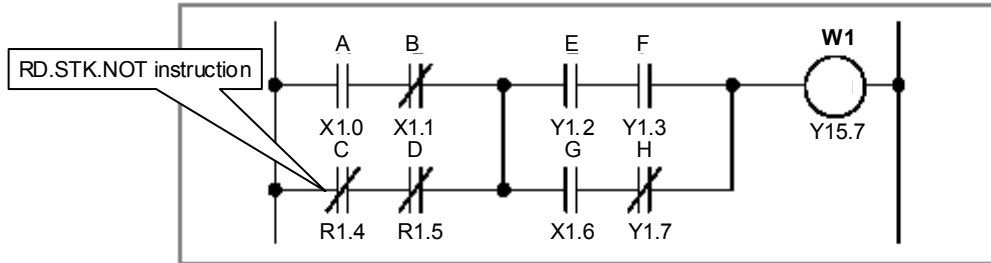

Fig. 4.1.11
- (1) The RD.NOT.STK instruction stacks the interim result of a logical operation. Use this instruction when the signal you specify is contact B (-|/|-). After shifting the register content one bit to the left, the instruction reverses the status of the signal at the specified address and sets it in the ST0 bit.
- (2) For examples of how the RD.NOT.STK instruction is used, see Fig. 4.1.11 and Table 4.1.11.